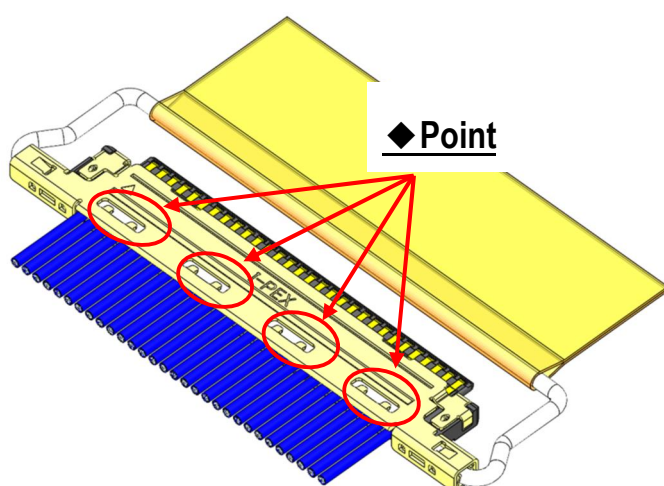

Fig.11 Soldering of Shell-A and Ground Bar
- ③ Soldering shell-A, B, and ground bar with the soldering iron at all designated points is recommended. (Fig.11,12 ◆ point)
※ In case of soldering discrete cable, soldering at Fig.11,12 ◆ point is impossible.